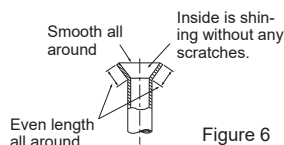

Figure 6
- Compare the flared work with Figure 6.